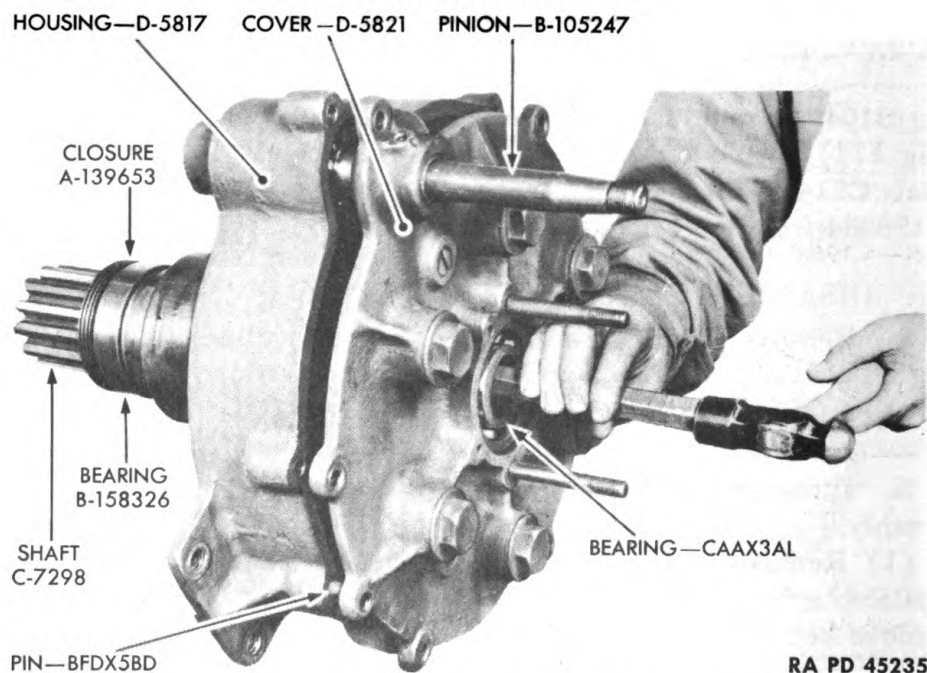

Figure 176—Removing Elevating Brake Drum Shaft
(7) Drive shaft C7298 back through and out of housing D5817 (fig. 176). Bearing B158326, closure A139653, and two keys A19758 will come away with shaft.